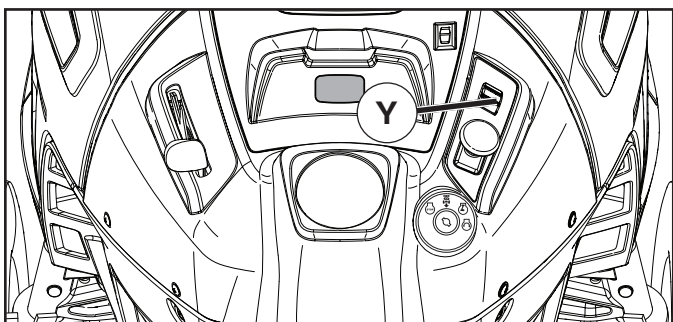

Fig. 8
(See Fig. 8)
TO USE CRUISE CONTROL (J) (See Fig. 8)